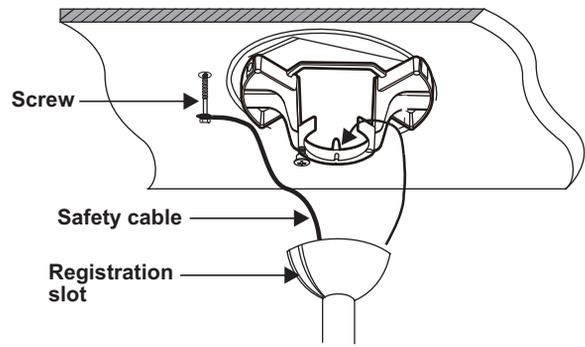

Figure 8
9. An additional safety support is provided to prevent the fan from falling. Secure the safety cable to the ceiling joist with screw and washer. (Fig. 8)